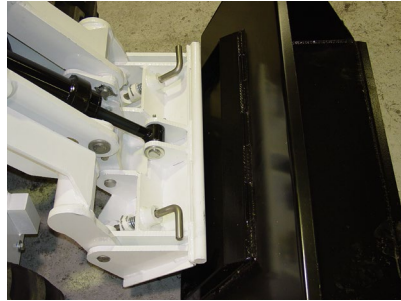

Figure 7
2. Tilt the attachment frame forward as shown in Figure 7, so that the top round edge of the attachment frame will fit under the lip of the attachment.